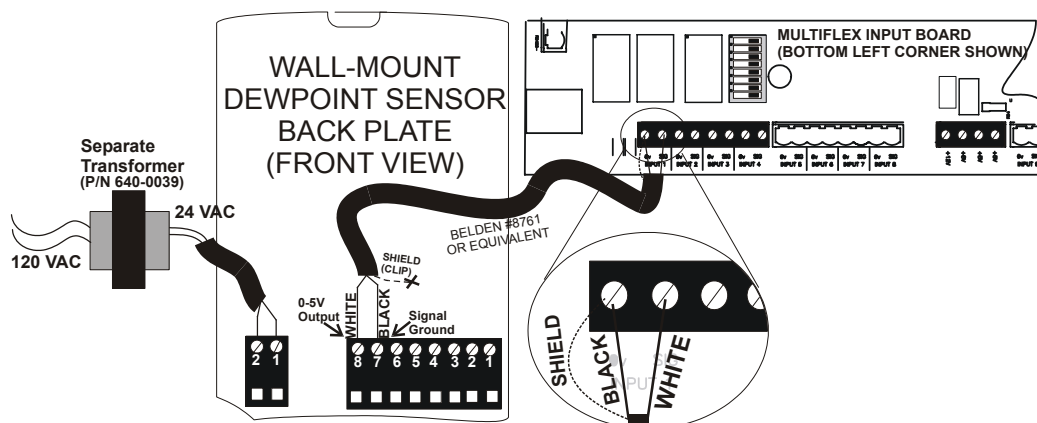

Figure 3 - Sensor and Input Board Wiring
2. Connect the BLACK and WHITE wires to the screw terminals on the sensor’s connector as shown in Figure 3 (connect BLACK to Signal Ground and WHITE to 0-5V Output). Clip the SHIELD wire.